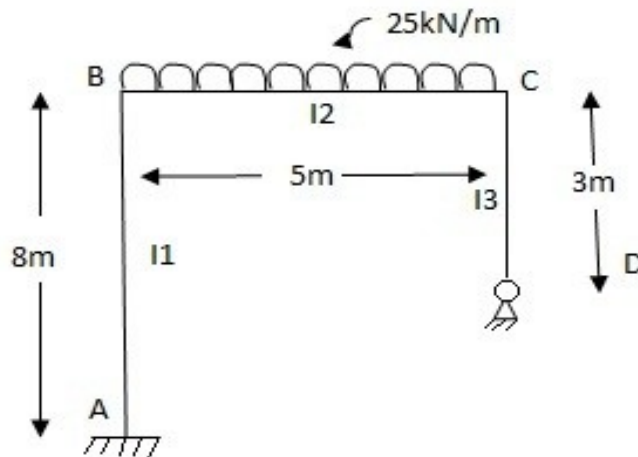

Figure.3
- (b) Analyse the portal frame shown in Fig.3. Take $I_1:I_2:I_3=3:2:1$ by using slope deflection method. CO2-App (16)